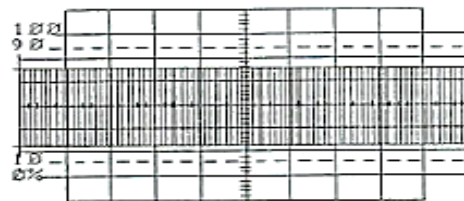

Figure 4-16.
20. Continue to slowly increase the oscillator's frequency by turning the NEGATIVE SUPPLY knob CW until channel 2 appears, as shown in Figure 4-16. What type of signal is the LSB FILTER'S output?